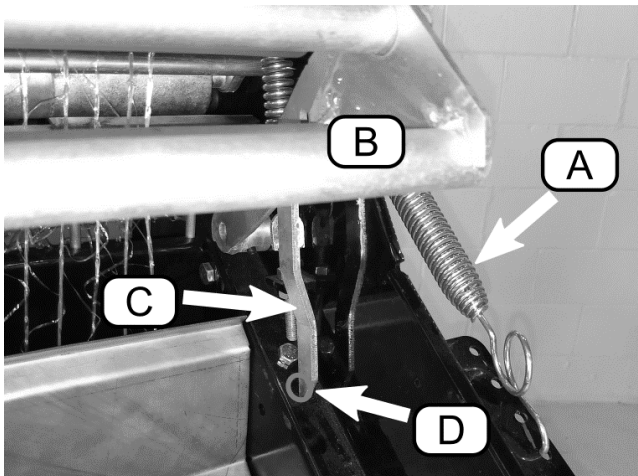

Figure 16
- a) Disengage the net roll tension springs (Figure 16, A). Raise the roll tensioner (B) and lock it in the up position by placing the support post (C) in the notch (D).